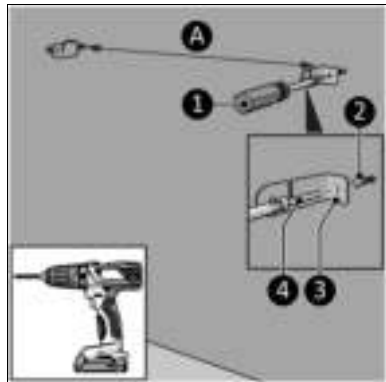
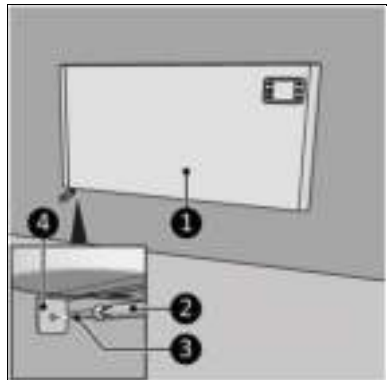

Figure 10
Figure 13
4. Drill two holes at least 610 mm above the floor and with a distance of (Figure 10, pos. A):
5. Place wall plugs (Figure 10, pos. 2).
6. Screw and tighten a left and a right bracket (Figure 10, pos. 3) to the wall with a large screw (Figure 10, pos. 4) using a Phillips screwdriver (Figure 10, pos. 1).
15. Screw and tighten the device brackets (Figure 13, pos. 4) with a large screw (Figure 13, pos. 3) to the wall (Figure 10, pos. 3) using a Phillips screwdriver (Figure 13, pos. 2).